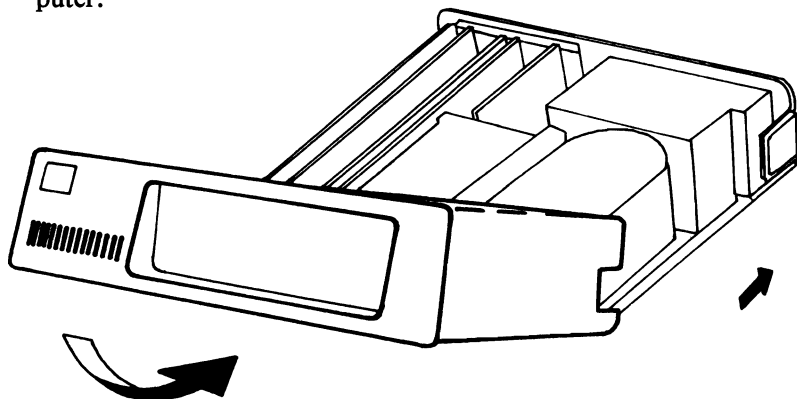

Figure 3A
1. Position the computer's cover, as shown in Figure 3A. Then push down on the cover while gently sliding it towards the rear of the computer.